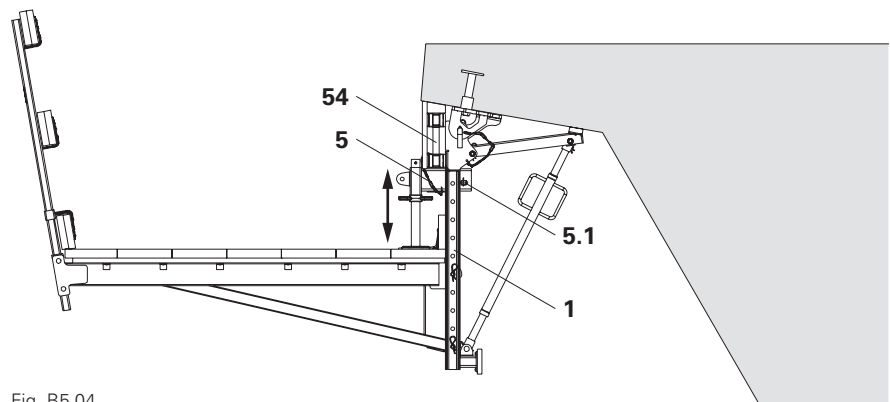

Fig. B5.04
2. Insert Formwork Fixing VGK 2 (5) into Bracket Post VGK (1).
3. Adjust Formwork Fixing VGK 2 (5) to required height with the spindle.
4. Secure Formwork Fixing VGK 2 (5) with a wedge (5.1).
5. Position internal formwork (54) on Formwork Fixing VGK 2 (5) and align. (Fig. B5.04)